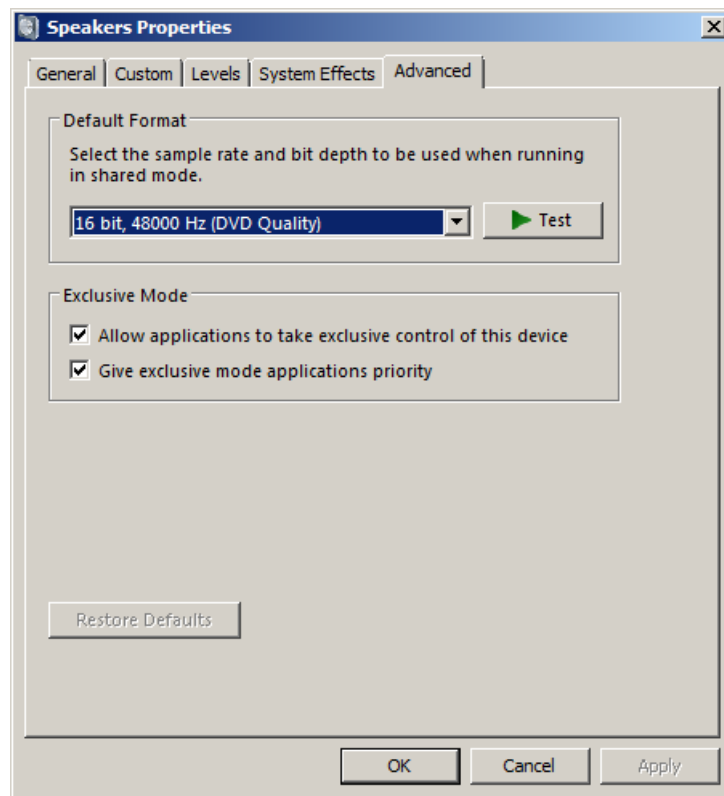

Figure 2.9 Setting the native bit resolution and sampling rate in Vista
- 4) Click on the tab '**Advanced**' to set the channel resolution and a sample rate (as in Fig. 2.9)